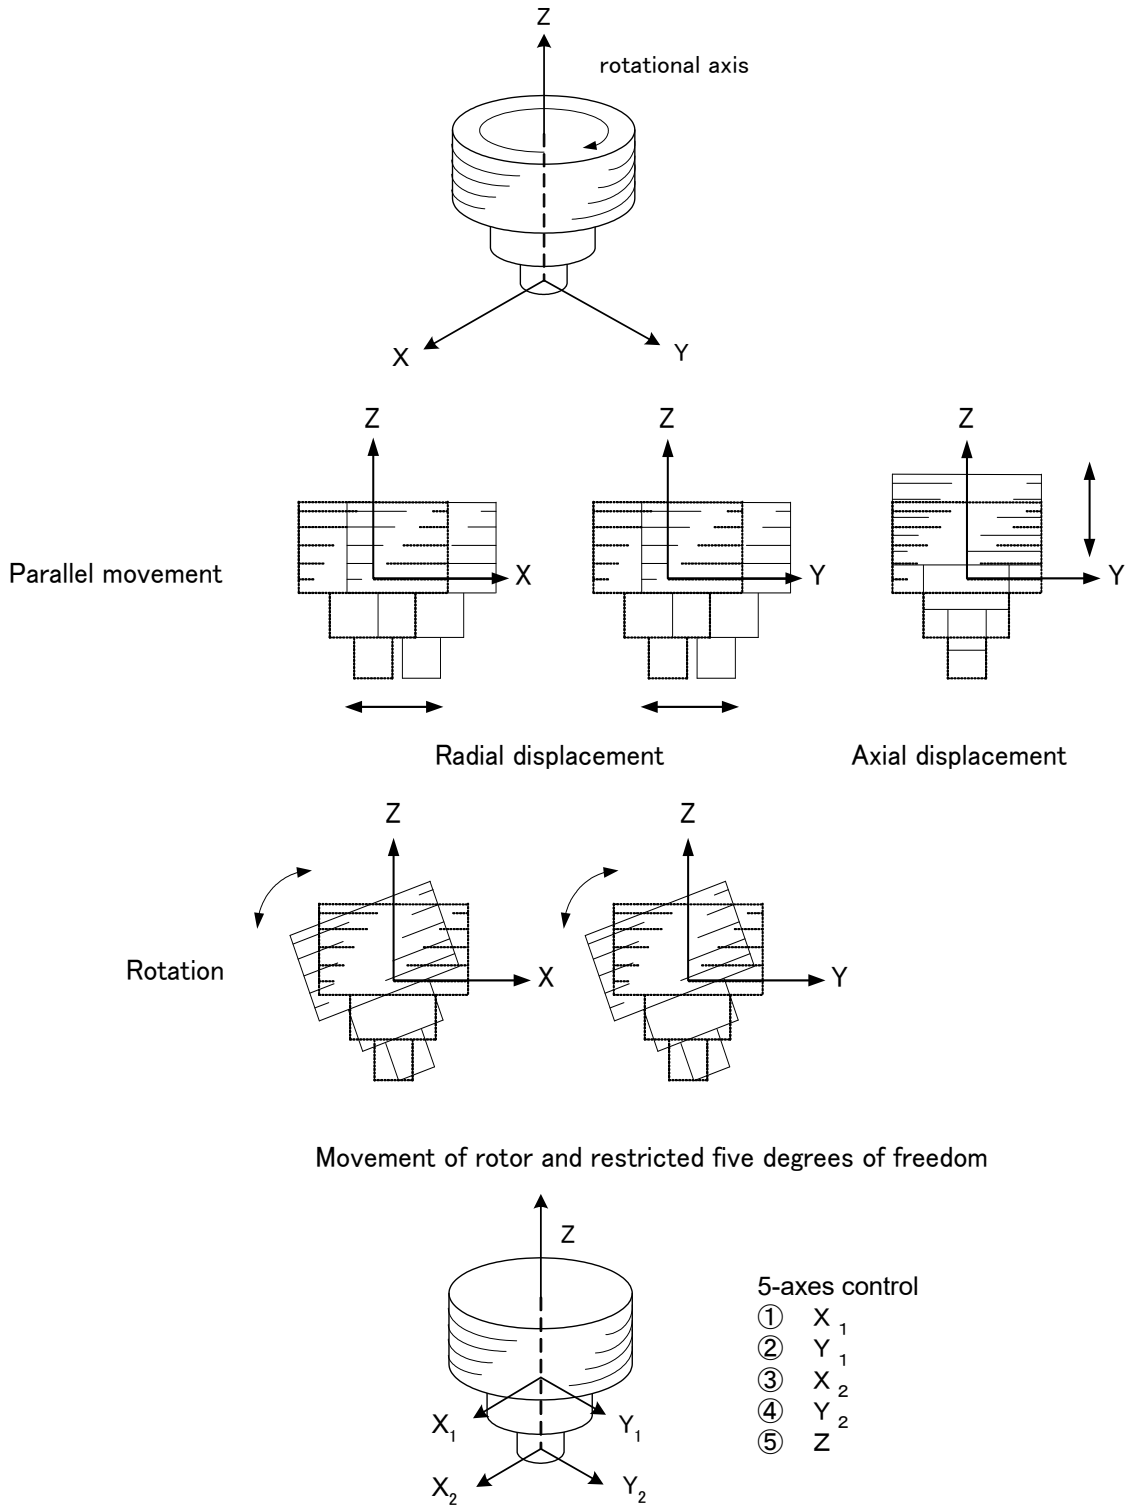

Fig.3-2 Outline of 5-Axes Control
A radial magnetic bearing (6) is used at the top and bottom of the drive shaft. The axial magnetic bearings (7) are used to levitate a disk attached to the drive shaft between the axial magnetic bearings. Each magnetic bearing is provided with a gap sensor (9) to detect the rotor position. Fig. 3-2 illustrates the outline of 5-axes control. The rotor is levitated by the control of these 5-axes allowing rotational freedom.